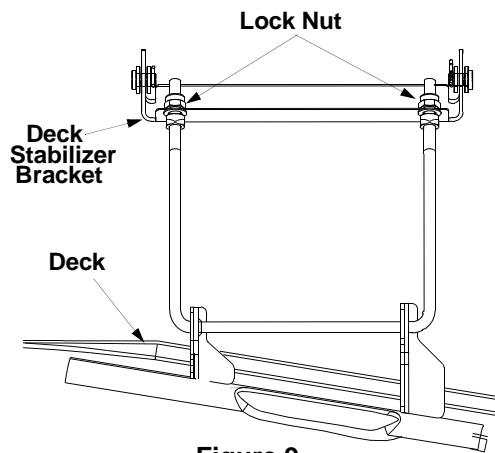

Figure 9
3. Locate the two lock nuts on the opposite side of the stabilizer bracket. See Figure 9. Tighten the lock nuts to raise the front of the deck; loosen the lock nuts to lower the front of the deck.